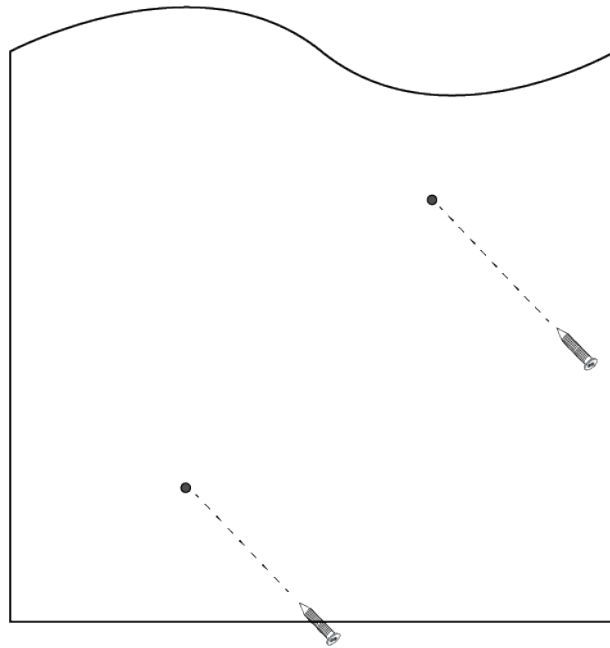

Figure 17. Installing Two Screws
5. Install two M4 screws and anchors (if required). Leave the screws loose enough so that the bracket can slide under the screw heads. Refer to Figure 17.